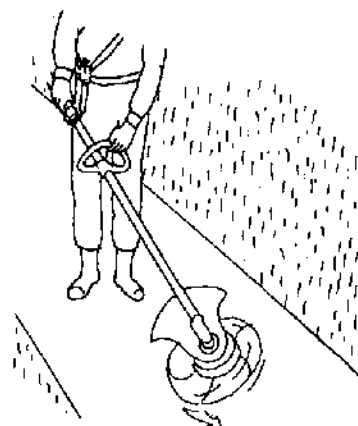

Fig. 9
- Sweeping grass and other debris from a hard surface can be done very quickly. See Fig. 9